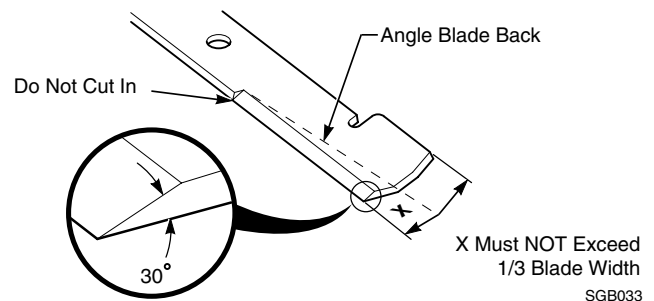

Figure 7-7. Blade Sharpening
DO NOT sharpen the blades beyond 1/3 of the width of the blade. See Figure 7-7
1. Sharpen the cutting edge at the same bevel as the original. See Figure 7-7. Sharpen only the top of the cutting edge to maintain sharpness.